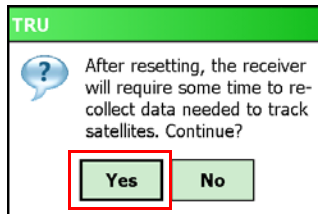

Figure 4-13. TRU – Clearing the NVRAM Confirmation Window
6. Click **Factory Reset**, and then **Yes** to continue (Figure 4-13).